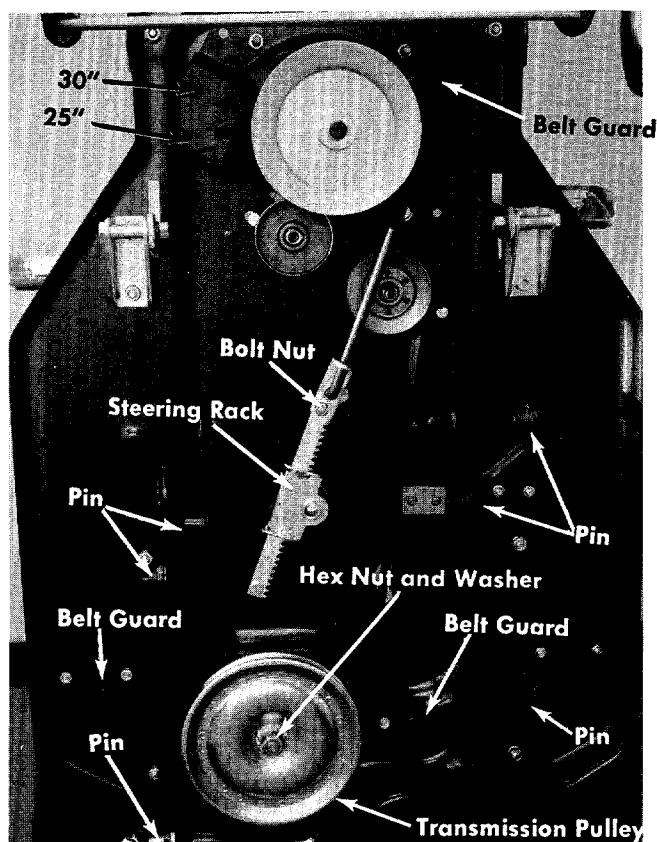

FIGURE 23. BOTTOM VIEW
- Step 6. Remove the six pins holding the deck to the frame. See figure 23.
- b. Remove the two belt guards from the transmission pulley. See figure 23.